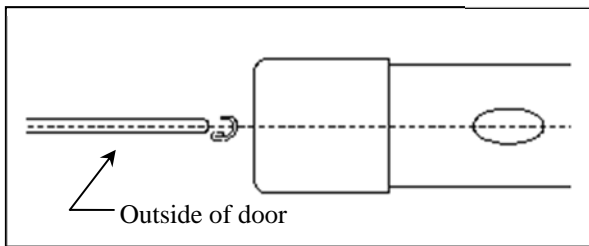

Fig. 2-3
**NOTE:** BEFORE PROCEEDING IT IS EXTREMELY IMPORTANT TO PROPERLY ALIGN THE DOOR EDGE, DOOR EDGE GUARD CHANNEL AND MALLET AS SHOWN IN FIG. 2-3. MALLET TECHNIQUE IS VITAL FOR PROPER INSTALLATION: